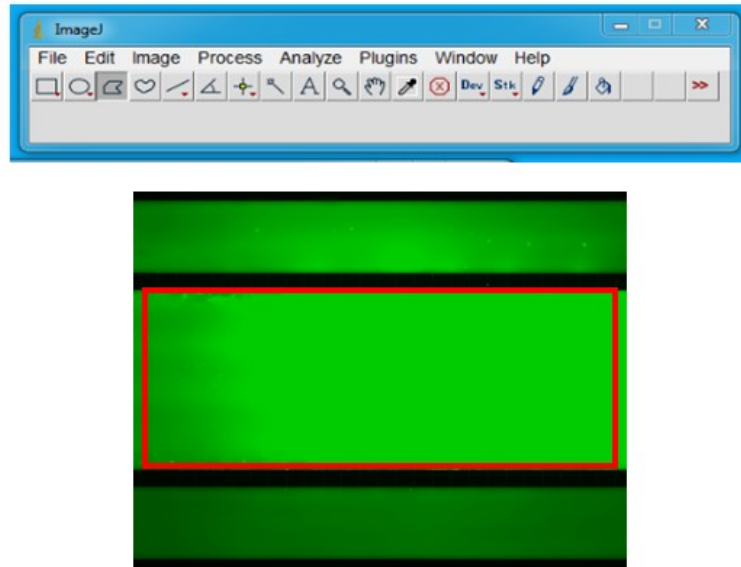

Figure 3. Outlining the epithelial channel using either the polygon or square tool in ImageJ.
2. Using the polygon or the square selection tool, carefully outline the epithelial channel geometry (**Figure 3**, red square). You may need to scroll to a high contrast section to clearly see the outline.